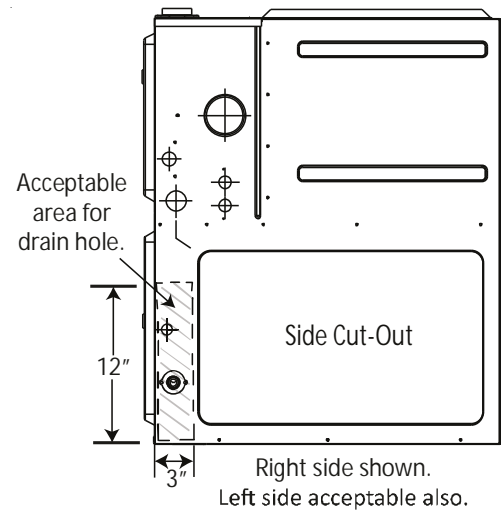

Figure 22
The trap and factory installed hoses remain as shipped. The furnace drain may exit either the right or left side of the furnace cabinet. Both sides of the cabinet have two .875" diameter holes which can be used interchangeably for drain and low voltage wiring purposes. If a higher drain exit is needed, a .875" diameter hole may be added in the area shown in Figure 22. Any unused cabinet opening must be sealed. Do not allow drain hose to sag or trap water.
1. Locate and install the 45° pipe / hose drain coupling from the outside of the cabinet (barbed end goes in the cabinet) through hole in the right side of the cabinet and secure with two field supplied #8 self-tapping screws (see Figure 22).
1. Install the 45 degree pipe / hose drain coupling from the outside of the cabinet (barbed end goes in the cabinet) through the hole in the left side of the cabinet and secure with two field supplied #8 self-tapping screws (see Figure 22).